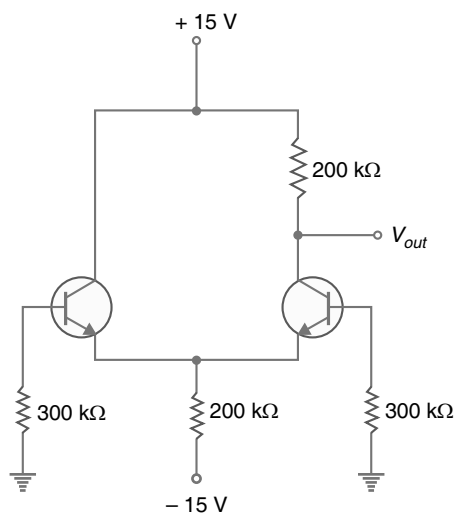

Fig. 23.97
1. In Fig. 23.97, the transistors are identical with  $\beta_{dc} = 200$ . What is the output voltage?
2. In Fig. 23.97, the left transistor has  $\beta_{dc} = 225$  and the right transistor has  $\beta_{dc} = 275$ . What are the base voltages? [ $-0.05\text{ V}$  ;  $-0.0409\text{ V}$ ]